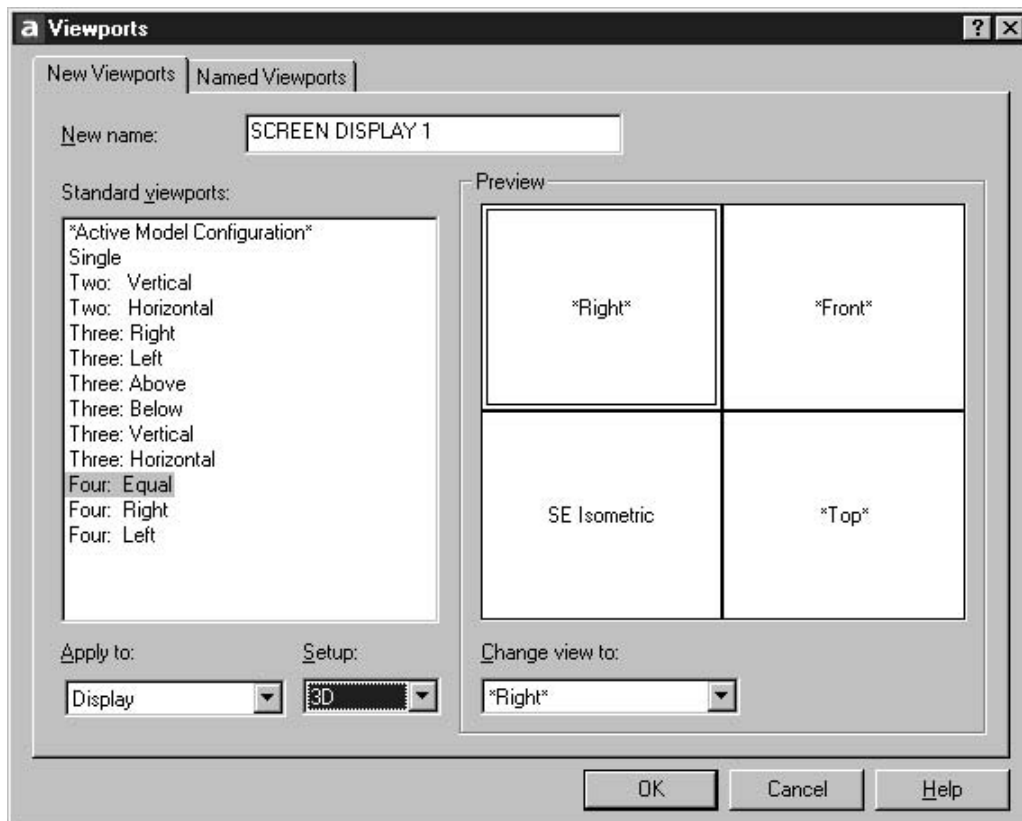

Figure 9.4 Viewports (New Viewports tab) dialogue box.
5. Change view to: do not alter (Fig. 9.4)